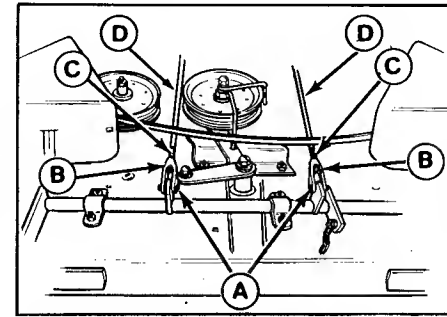

Figure 39. Turnbuckles
6. If adjustment is needed, remove the two pins. (A, figure 39) by removing the cotter pins. Loosen the jam nuts (C).